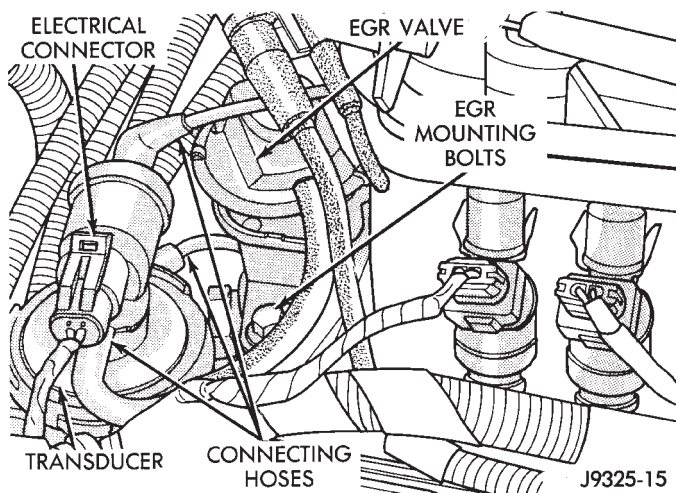

Fig. 11 Electric EGR Transducer—5.2L Engine
- (1) Disconnect wiring connector at EET (Fig. 11).
- (2) Disconnect hoses at EET. Note position of hoses for easier installation.
- (3) Remove EET from engine.